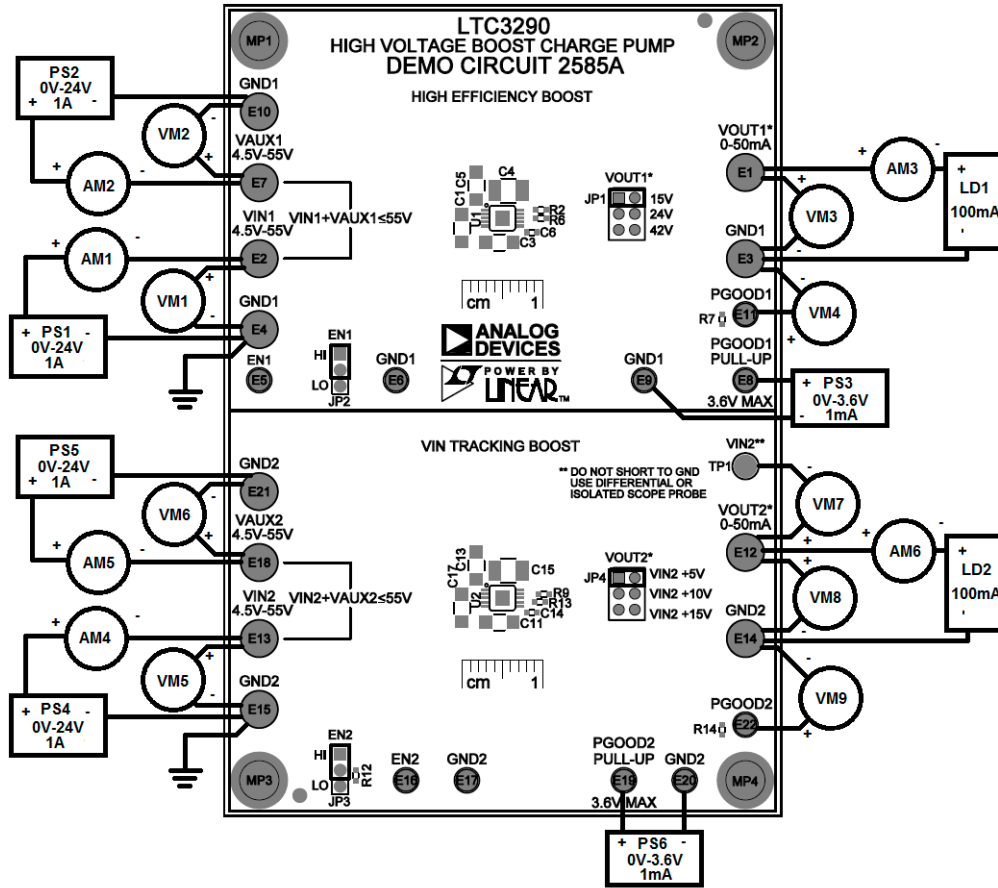

Figure 1. Proper Measurement Equipment Setup for DC2585A
Refer to Figure 1 for the proper measurement equipment setup and jumper settings and follow the procedure below.
5. If it is desired to observe PGOOD1, set PS3 to 3.3V as shown in Figure 1 and observe PGOOD1 with a DVM, VM4 in Figure 1.
13. If it is desired to observe PGOOD2, set PS6 to 3.3V as shown in Figure 1 and observe PGOOD2 with a DVM, VM9 in Figure 1.